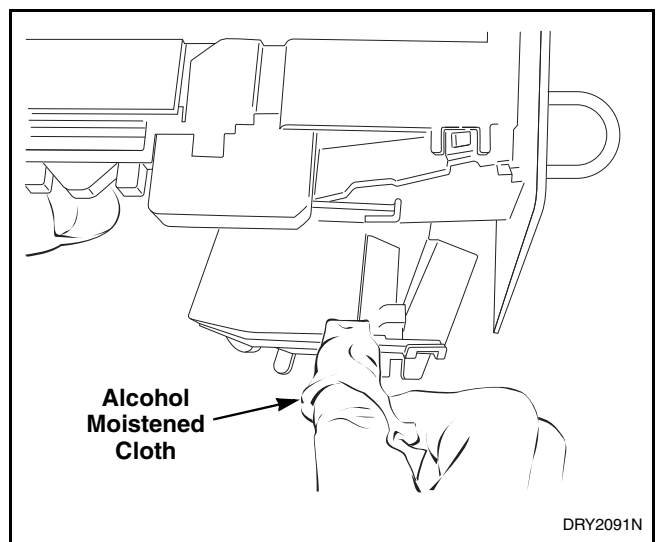

Figure 20
- f. Clean residue from coin rail with an alcohol moistened cloth. Refer to *Figure 20*.